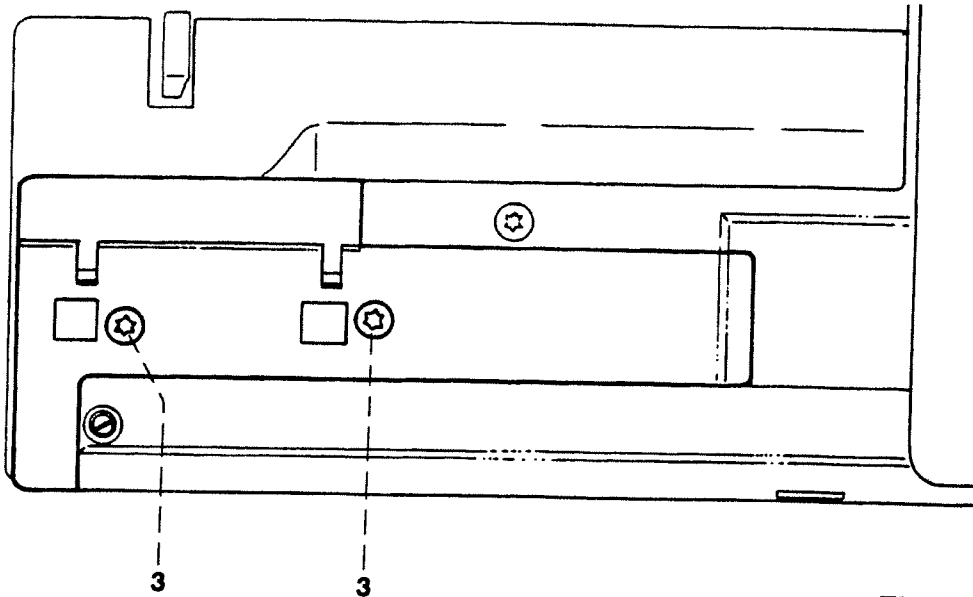

Fig. 3
- Turn out the two retaining screws 3 of the free-arm cover (fig. 3).